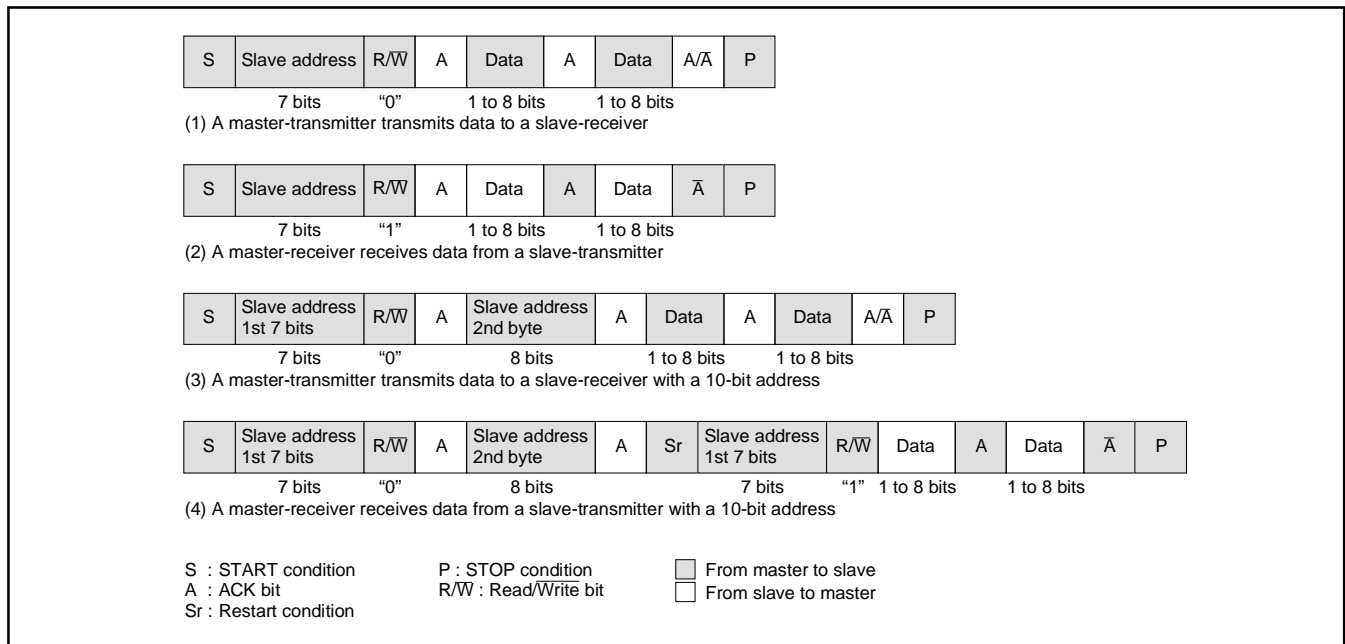

Fig. 8.6.13 Address Data Communication Format
(1) 7-bit addressing format
To support the 7-bit addressing format, set the 10BIT SAD bit of the I²C control register (address 00F9₁₆) to "0." The first 7-bit address data transmitted from the master is compared with the high-order 7-bit slave address stored in the I²C address register (address 00F7₁₆). At the time of this comparison, address comparison of the RBW bit of the I²C address register (address 00F7₁₆) is not made. For the data transmission format when the 7-bit addressing format is selected, refer to Figure 8.6.13, (1) and (2).
(2) 10-bit addressing format
When the first-byte address data matches the slave address, the AAS bit of the I²C status register (address 00F8₁₆) is set to "1." After the second-byte address data is stored into the I²C data shift register (address 00F6₁₆), perform an address comparison between the second-byte data and the slave address by software. When the address data of the 2nd byte matches the slave address, set the RBW bit of the I²C address register (address 00F7₁₆) to "1" by software. This processing can match the 7-bit slave address and R/W data, which are received after a RESTART condition is detected, with the value of the I²C address register (address 00F7₁₆). For the data transmission format when the 10-bit addressing format is selected, refer to Figure 8.6.13, (3) and (4).